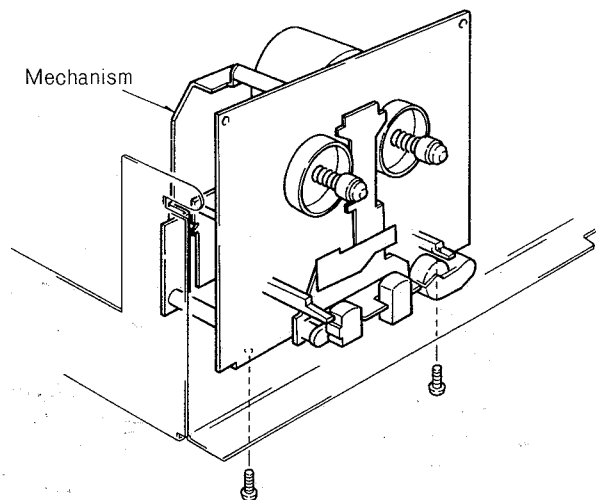

Fig. 3
- 1) Remove the 2 screws and lift up the mechanism. (See Figure 3)